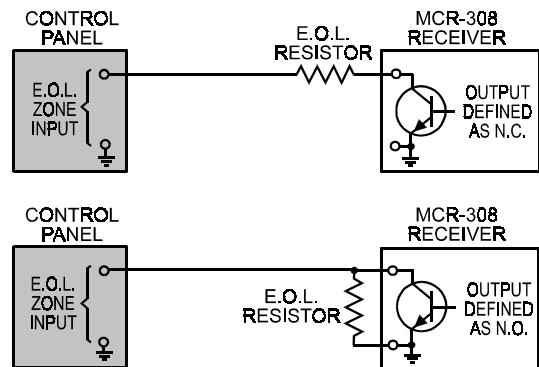

Figure 6. Wiring E.O.L. Zones
**Note:** If the control panel zone inputs are defined as E.O.L., you must use appropriate E.O.L. resistors (see Figure 6).